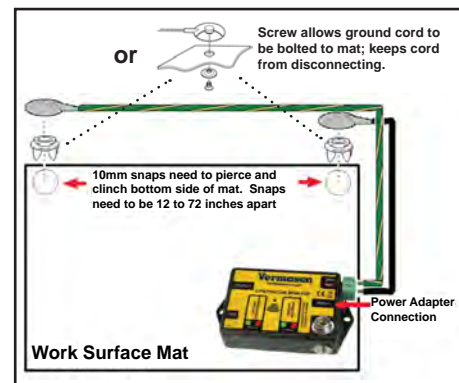

Figure 3. Installation method #1 of the Multi-Mount Continuous Monitor
II. The Multi-Mount Continuous Monitor may be mounted to a convenient location using the included mounting screws or Velcro® set. See Figure 3 for installation set-up.
III. Install Screws and Washers or Push and Clinch snaps 12 to 72 inches apart from each other on the work surface mat. Make sure that they pierce and clinch the bottom side of the mat. (See Figure 3).
* The working surface resistance is measured between the two cords installed to the mat working surface (See Figure 3).